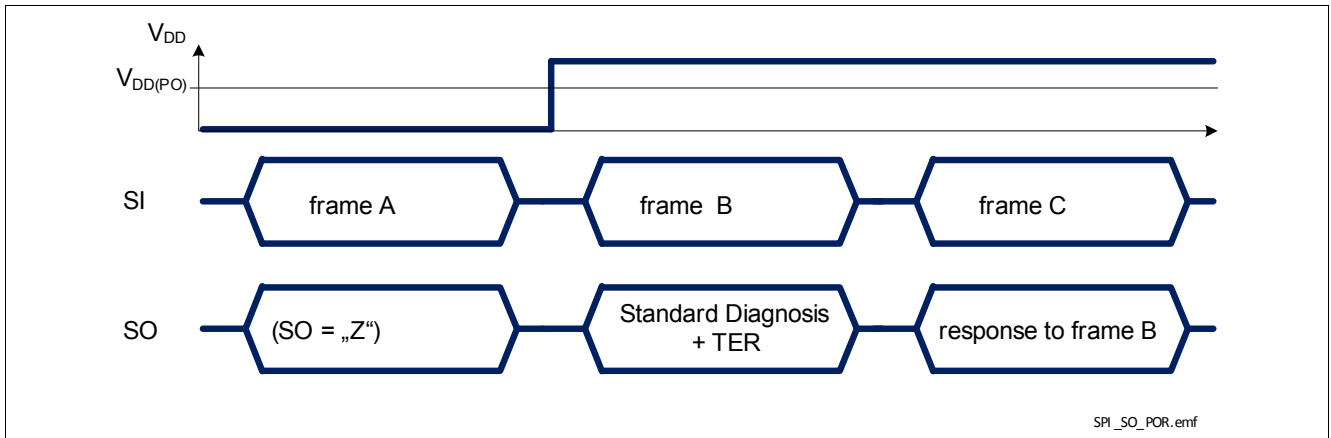

Figure 33 BTS54220-LBF response after coming out of Power-On reset at V_{DD}
- when BTS54220-LBF logic supply comes out of Power-On reset condition, as shown in Figure 33